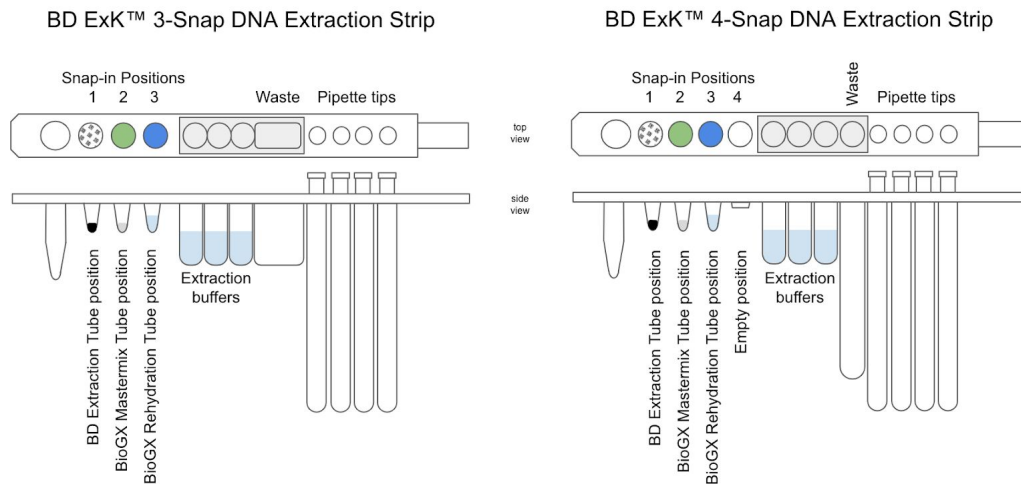

Figure 1 – Diagram of BD MAX™ ExK™ 3-snap and 4-snap Unitized Reagent Strips
4. Snap one BD MAX™ ExK™ DNA-3 Extraction Tube into position 1 (Snap-in 1) of each Unitized Reagent Strip. (See Figure 1)